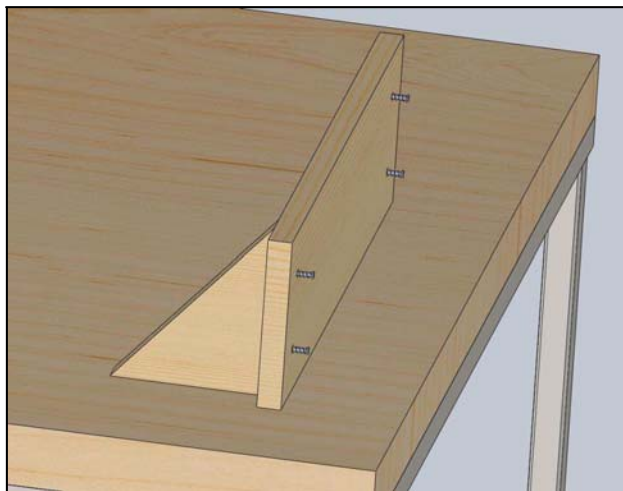

Figure 11: (1) Hold the gussets tight and aligned with line to mark holes.
- C. Next, hold the gusset up tight to the bottom of the top piece, aligned with the both edges and the line drawn in the Step 9B, refer to Figure 11.